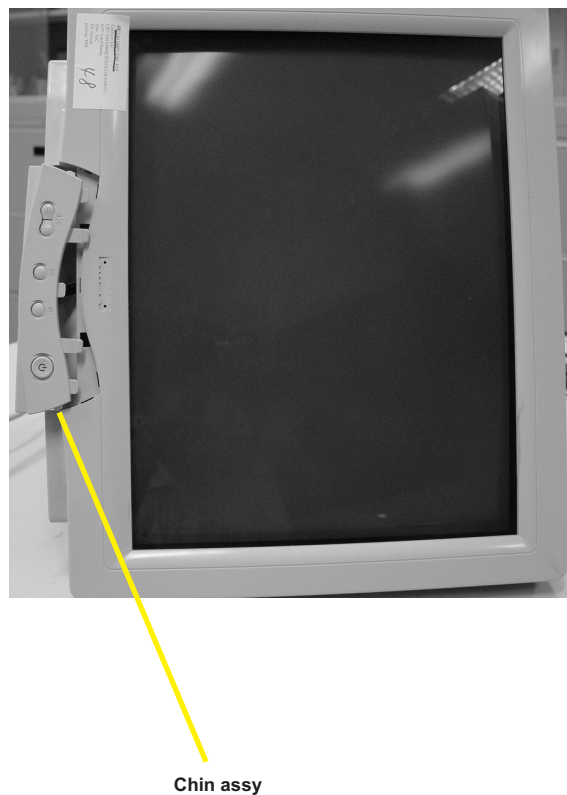

Fig. 3
- Remove screw grounding and grounding wire in Fig. 3.